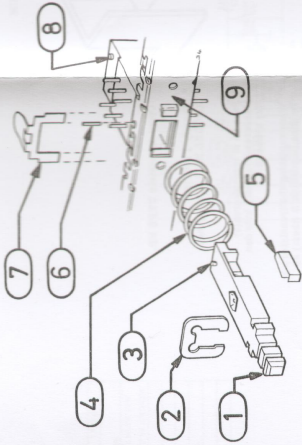

Fig. 2.3 ISOSTAT-trykknappvender med uavhengig utløser. ISOSTAT-push button switch with independent locking action.
2.1.8 PHONO push button switch (see Fig. 2.3 and Index No. 6 in Fig. 4.3) (see page 20)
- A2 Switch plunger, independent locking (see Fig. 2.3)
RESERVEDELSLISTE til fig. 2.3
SPARE PARTS LIST to Fig. 2.3
(see Fig. 2.3 and 2.4)